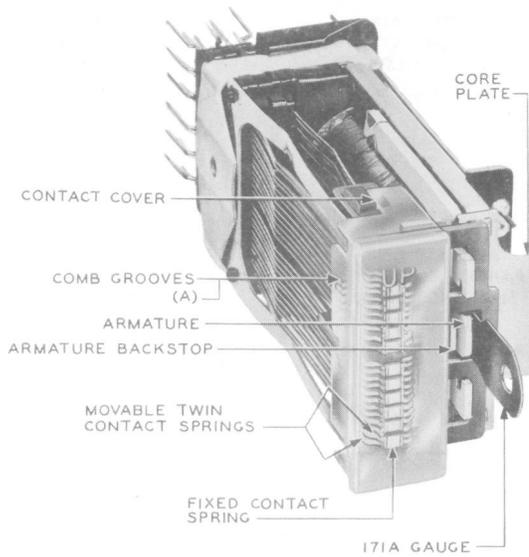
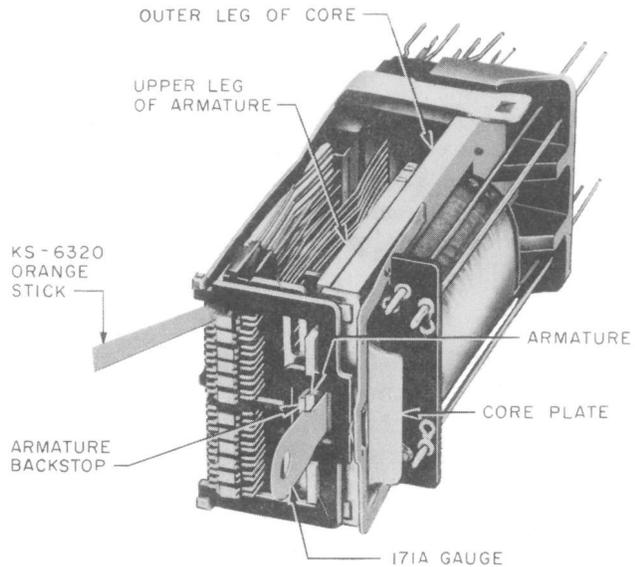

Fig. 5—Method of Inserting Gauge In AL-Type Relay
Fig. 7—Method of Checking Open or Closed Contacts of AL-Type Relay
Fig. 5(A) and 6(A)—The twin springs of a movable pair shall be in the respective comb grooves associated with the position on the relay in which the springs are mounted.
(c) To check the requirements where the gauge is to be inserted in the armature gap, electrically operate and release the relay (see requirement 2.13). Insert into the armature gap the specified gauge of the proper thickness with the stop on the gauge resting against the core plate as shown in Fig. 5 and 6. Hold the gauge so that its long axis is in a horizontal position and the gauge does not touch the card. Then electrically energize the relay and note whether the contacts are open or closed as required. When a gauge is inserted in the armature gap of the relay, the relay may release when the current is removed from the winding; therefore, at least minimum operate current must remain applied to the winding to keep the relay electrically energized while checking the requirement on the relay. In case of doubt as to whether the contacts are open or closed, remove the contact cover and apply the KS-6320 orange stick to the tips of the twin contact springs. Attempt to move them toward their mating single contact as shown in Fig. 7 and 8. Observable movement of either twin contact indicates that the contact is not closed.